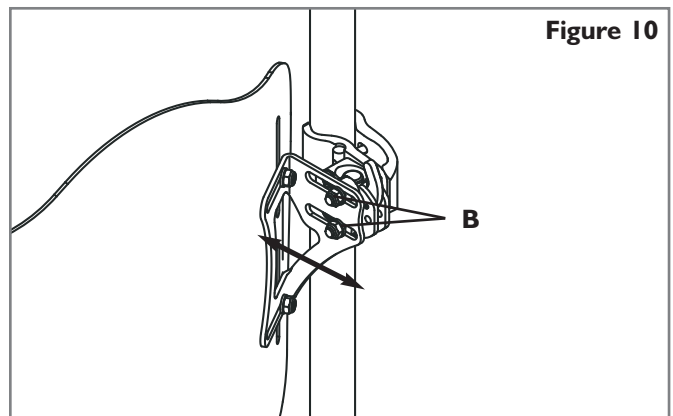

Figure 10
- To adjust J3 Back depth and angle loosen left and right nuts (Fig. 10-B) on bracket slots.
- Adjust depth and/or angle and securely tighten. The recommended torque specification is 100-110 in-lbs. (11.3 - 12.4 Nm). Ensure that none of the depth adjustment nuts (Fig 10-B) will slip or rotate.